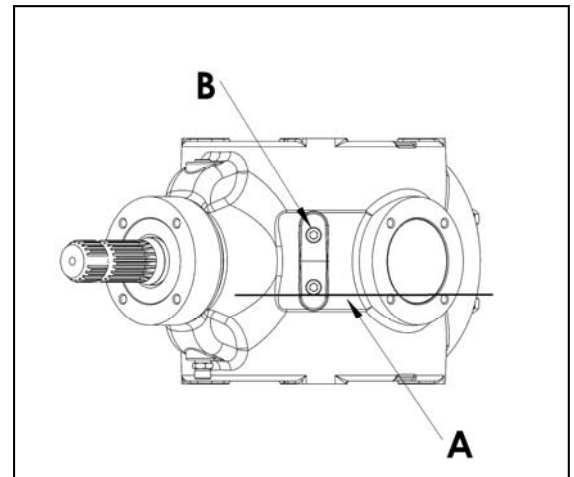

Figure 45: Gearbox Oil Level
Gearbox oil levels should be checked routinely and filled to line (A) shown in Figure 45.